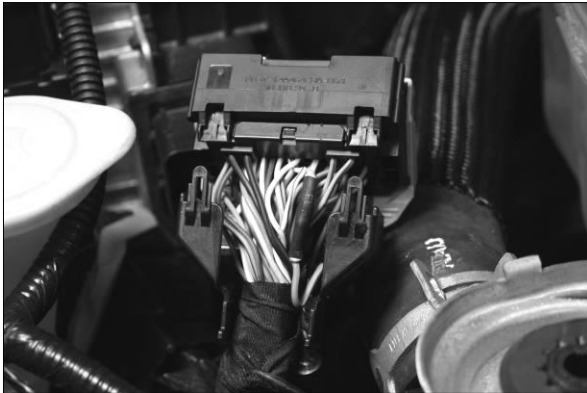

Figure 5
2. a) Remove the pin locking device as shown in figures 2 and 3. Also remove the wire support on the back of the connector (figure 5) by removing the tape and using a small screwdriver to lift the locking tabs.
b) Remove pin C-56 from the connector by **gently** moving the locking tab away from the pin on the front of the connector and pulling the wire out of the back of the connector. Remove the insulation from a 1/2" section of the pin C-56 wire and 1/2" of the end of the blunt wire on the ACT loom. Solder the two wires together and seal them with the supplied shrink wrap. Reinsert the spliced wire into the C-56 location. Note the orientation of the pins on the front of the connector and reinstall the pin in the same way. If the pin is turned it will not lock. The finished/inserted splice is shown in figures 5 and 6.